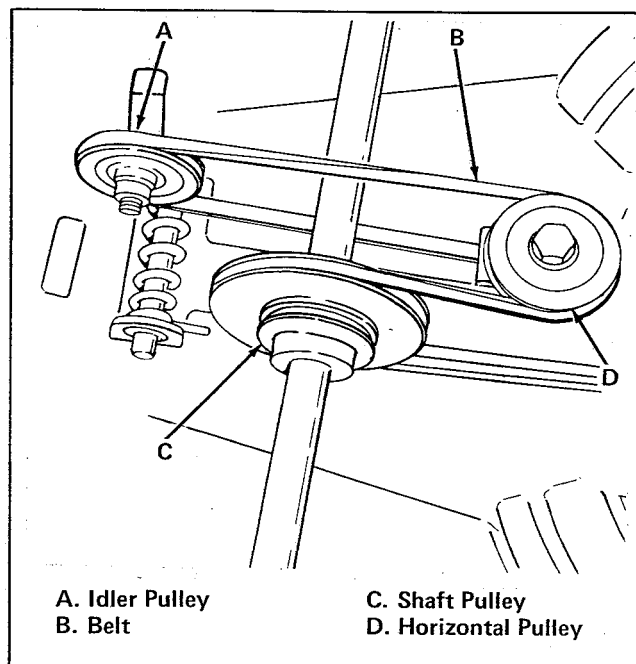

Figure 35. Belt Installation
3. Push the spring loaded vertical idler pulley arm (item A, figure 35) forward and slip the old belt up off the horizontal pulley.
8. Run the belt under the shaft pulley (item C) and idler pulley, then around to the top horizontal pulley (item D). Make certain that the belt is properly installed, as in figure 35.